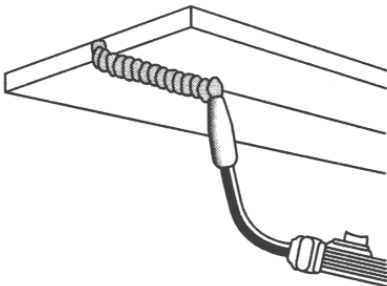

Figure 17. Overhead Position
4. The OVERHEAD POSITION (Figure 17) is the most difficult welding position because gravity is pulling at the weld puddle trying to make it drip off the work piece. Angle A (see HOLDING THE GUN - p.18) should be maintained at 60 degrees, the same as in the flat position. Maintaining this angle will reduce the chances of molten metal falling into the nozzle should it drip from the weld puddle. Angle B should be held at zero degrees so that the wire is aiming directly into the weld joint. If you experience excessive dripping of the weld puddle, select a lower heat setting. Also, the weave bead tends to work better than the stringer bead when welding overhead.